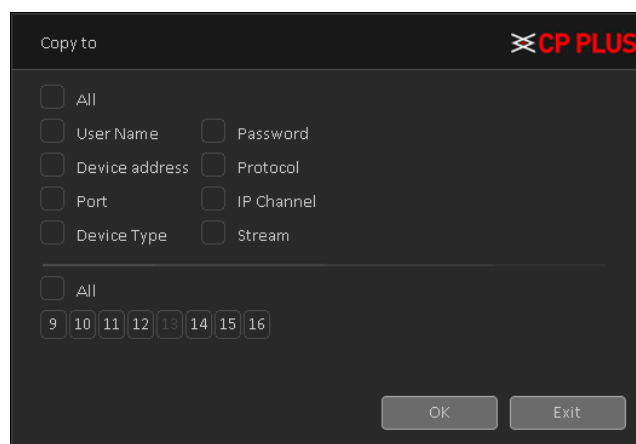

Figure 4.5
- **[Copy To]** Some information of selected channels can be copied to other channels, such as user name, password, and other device information, as shown below Figure 4.5